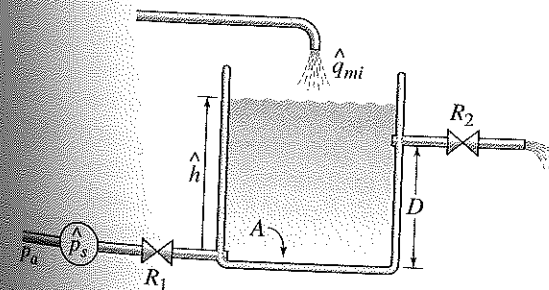

Figure P7.20
- 7.20 In the liquid level system shown in Figure P7.20, the resistances  $R_1$  and  $R_2$  are linear, and the input is the pressure source  $p_s$ . Obtain the differential equation model for the height  $h$ , assuming that  $\hat{h} > D$ .